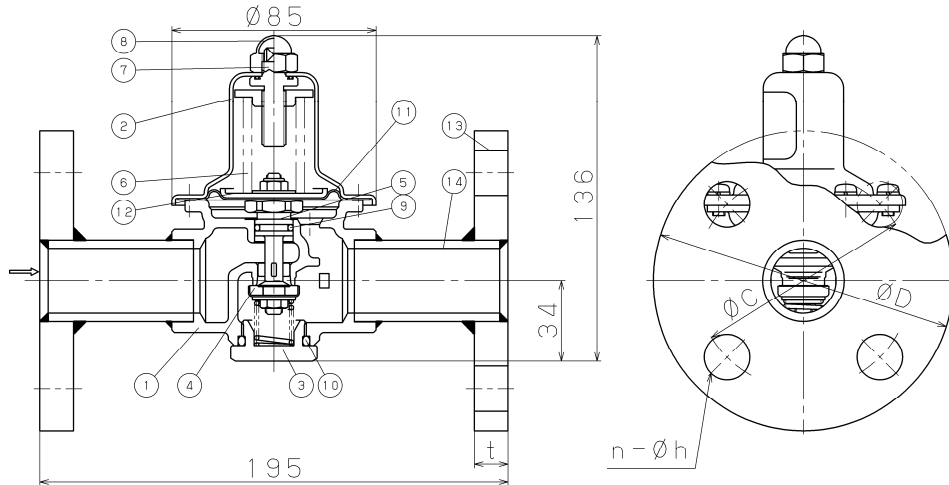

fig. 3
3.2 GD-43-10 Type, GD-43N-10 Type (Refer to fig. 3, table 3, and table 4.)